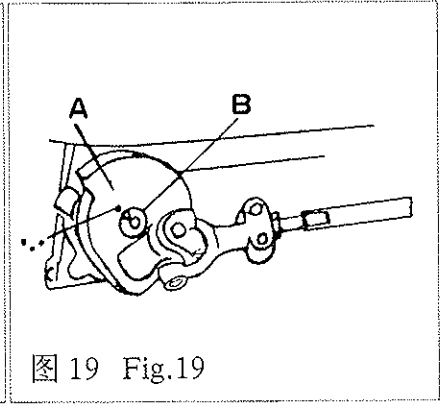

图 19 Fig.19
(1)钩线叉的基本位置 钩线叉的基本位置由钩线叉曲柄“A”与主轴“B”的位置决定。安装时应将曲柄上的圆点“·”标记对准主轴上的“V”形槽中心时,将钩叉曲柄固定(图19)。
Basic position of thread hook is decided by positions of crank "A" of thread hook and main shaft "B". When the mark "." on the crank coincides with the center of "V"groove on the main shaft, fix the crank of thread hook in place (Fig.19)
③调整钩线叉曲柄上的圆点“·”标记与主轴“V”形槽的相对位置(图 19)对钩线叉的左右位置也有影响。所以调整钩线叉的左右位置,必须根据具体情况,在上述三步骤中仔细选择和反复进行调整,才能达到最佳状态。
(2) Positioning of location for pronged thread hook
③ Adjustment of location of the mark "." on the crank of thread hook in relation to "V" groove on the main shaft (Fig.19) impairs the positioning of the location of the thread hook. Thus microadjustment of the position for thread hook shall be made accordingly. An ideal condition of operation can be acquired only when careful selection and
①运动关系调整 通过调整钩线叉曲柄上圆点“·”标记相当于主轴“V”形槽位置(图19)。
① Adjustment of timing relation by regulating the position of the mark “·” on the crank of thread hook and “V” groove on the main shaft (Fig.19)